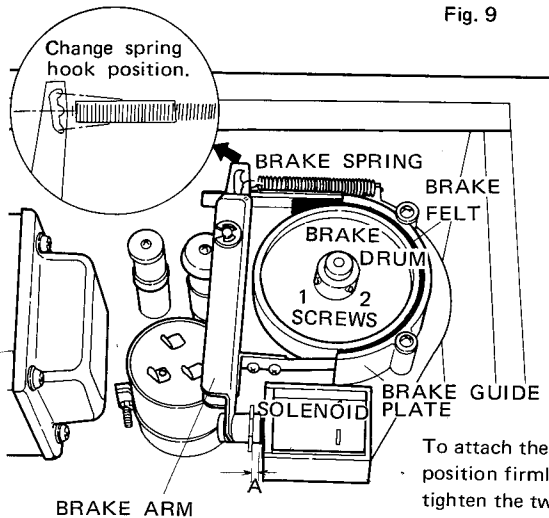

Fig. 10
- Is A in Fig.10 4mm when the solenoid is not operating?
● Adjustment (Figs. 10, 11)